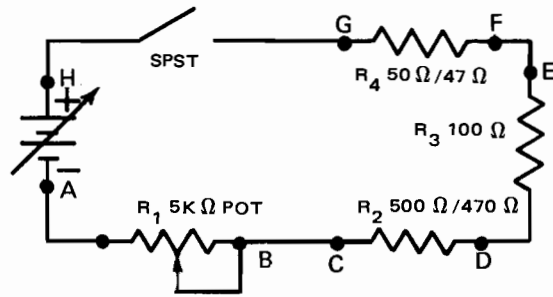

Fig. 5-1-2C
- Turn off circuit switch and add a 5 k potentiometer to circuit at test points A-B as shown in Fig. 5-1-2C.